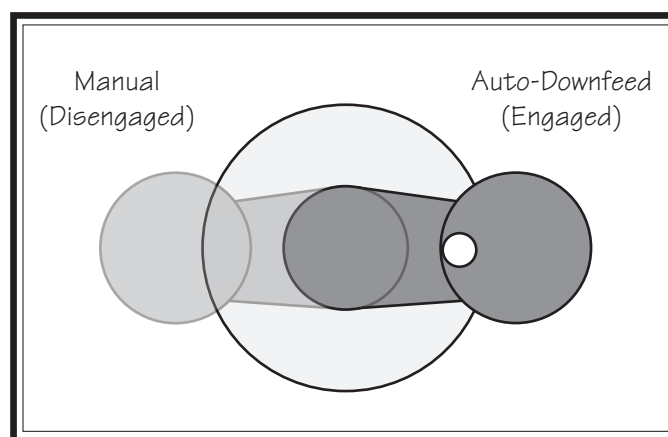

Figure 47. Downfeed selector in auto-downfeed (engaged) position.
2. Pull downfeed selector knob out, rotate selector clockwise, and seat pin in rear auto-downfeed (engaged) position, as shown in **Figure 47**.